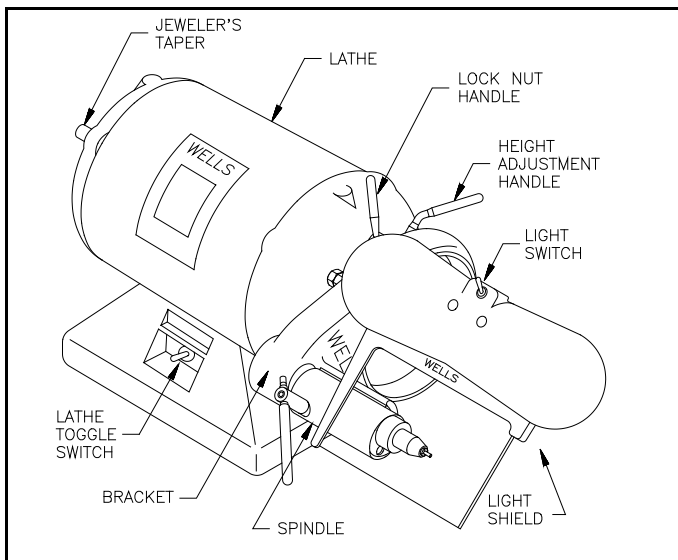

Figure 1. Gold Chrome Machine features
5.5.2 Hold the Spindle and loosen the height adjustment handle. See Figure 1.